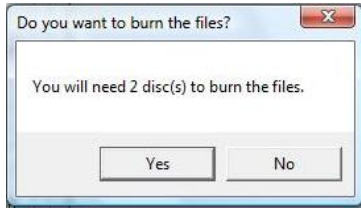

Figure 5-5
- For Mode 2, select **Yes**. A dialog box indicating the number of required discs for burning (Figure 5-5) appears.